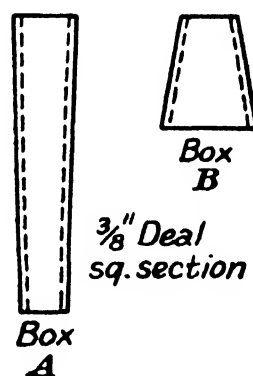

FIG. 47.
**Bases and Boxes.**—Concrete bases must never be set on “made” earth, but must reach a good solid foundation. This remark is rather an elementary one; still there are times when an erector is required to add one or more bases for modifications on site, and perhaps he is unacquainted with earthwork details. The holes that are moulded in the concrete blocks for the holding-down bolts are mostly made to taper inwards to the bottom, as shown in A, Fig. 47. The idea behind this is that the boxes or patterns may be used again, but they are mostly broken in drawing, because the wood clings to the surface of the concrete. The moulds are generally about two-thirds of the depth of block, and although this practice of shape and depth is common everywhere, only a little thought is needed to prove to one’s own reason that it is capable of great improvement. The style of box shown in B, Fig. 47, has all the merits of the other and additional ones of its own. The inward tapering (A) as previously described is eminently suited for dowelling purposes, but for anchorage it is lacking in practical appeal. When the taper of the hole is reversed, as shown in B, the hole need only be half (or less) of the depth of A, and at that will give a better anchorage.